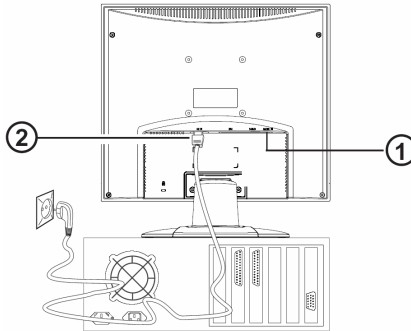

Figure 3. Connecting the monitor to the power source
If your computer is equipped with an audio output port, connect one end of the sound cable to the audio Input connector of the monitor (Ⓢ in fig. 3) and the other end to the Line-Out connector of the computer.
Connect the separate power cable (② in fig. 3) to the Monitor and a grounded outlet.